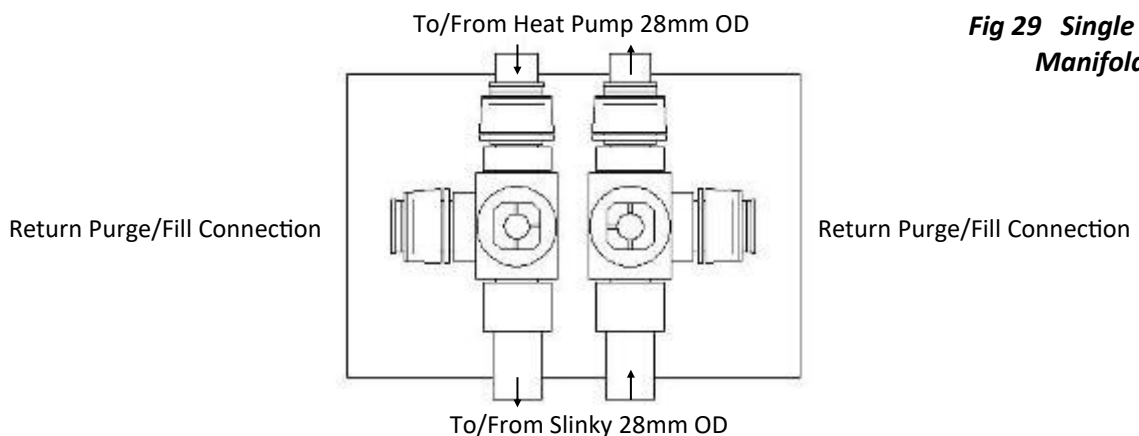

Fig 29 Single Slinky Manifold
The sequence of valve operation for a single manifold is slightly different from larger manifolds. Each slinky is connected to a three port diverting valve as above. The slots machined on the front of each valve indicate which connection is open. The previous drawing (Fig 29) is set for normal operation, i.e. both purge connections are closed and the flow and return from the slinky to the heat pump are open.
- i. Remove the plastic blanking plugs, and connect the purge pump to the fill and purge ports on the Slinky manifold, see Fig 29. The purge ports can be connected either way round.